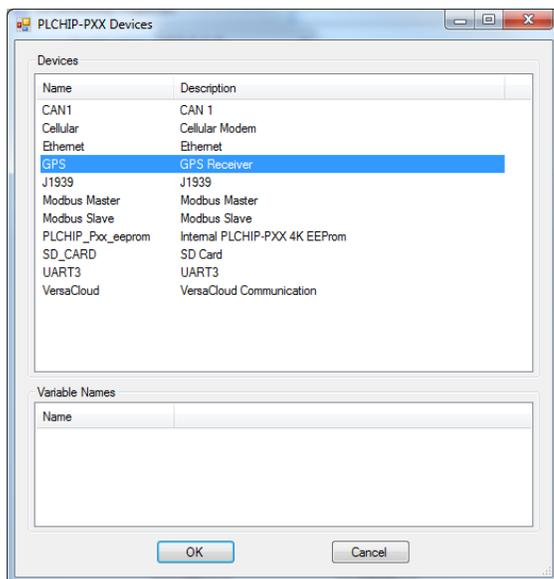

Figure 2-38 - PLCHIP-PXX Devices - GPS
4. Click / select **GPS** (highlight). Refer to Figure 2-38. Click **OK**. The GPS Properties window will open identifying UART4 as the interface for the GPS. Click **OK**.